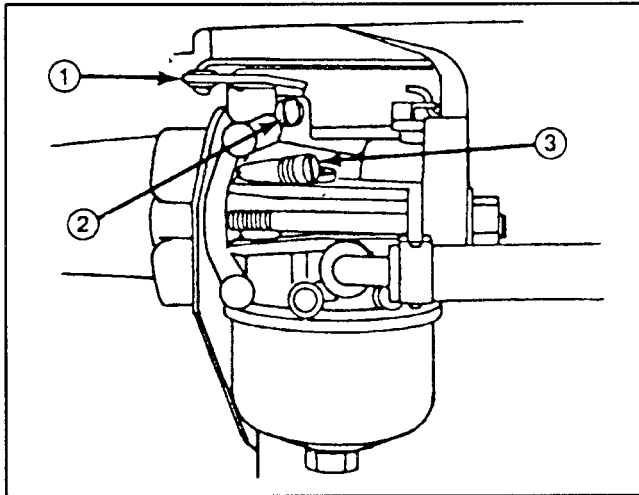

Figure 20
1. Gently turn the idle mixture valve clockwise until it **just** closes (Fig. 20). Turning the valve in too far may cause damage.
4. Turn the throttle (Fig. 20) counterclockwise and hold against idle speed adjusting screw (Fig. 20) while turning the idle speed adjusting screw to obtain 1750 rpm.